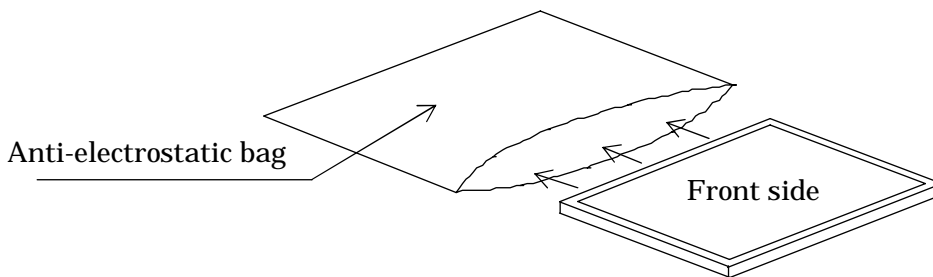

Fig. 17-1(a) Packaging method
- When returning the LCD modules, adhere to the following procedures not to damage the LCD panel or the backlight cables. (Fig. 17-1(a)~(b))